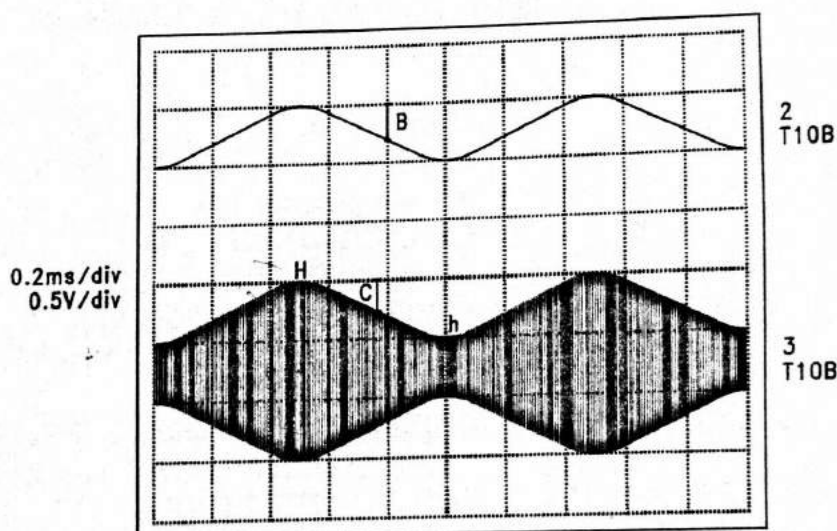

fig. 1.6 : Calculation of the modulation index
8. using the oscilloscope measure (fig.1.6):